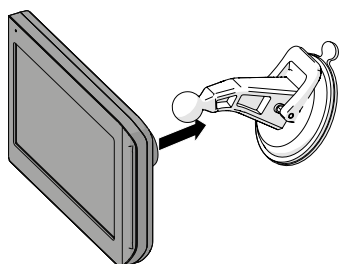

Fig. 9
4. Align the dot bullet of the suction cup with the opening on back of the monitor and push firmly until locked into place. (Fig. 9)